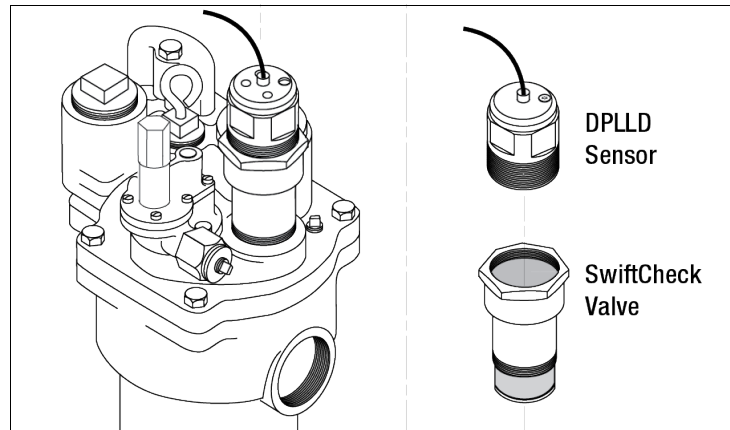
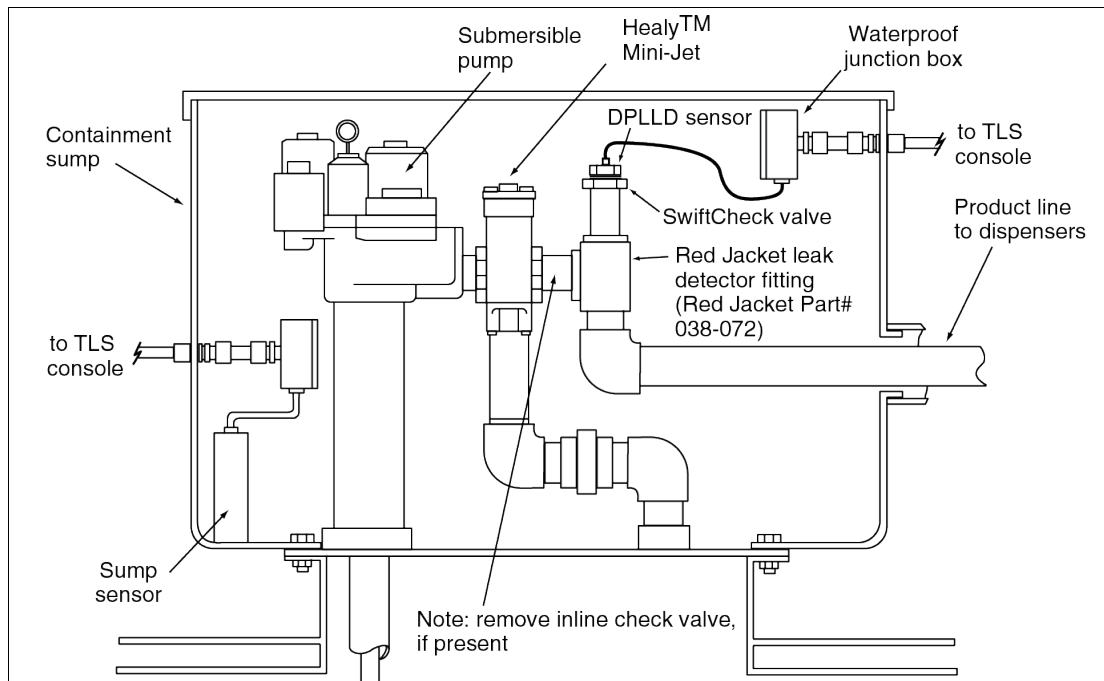

Figure 4. DPLLD Transducer Installation
Figure 5. DPLLD Install W/Healy Mini-Jet System (Required Dielectric Union And Shutoff Valve Not Shown)
8. If there is a Stage II vapor recovery device installed, go to Step 7. If there is no Stage II vapor recovery, install the SwiftCheck valve [Figure 4] in the mechanical LLD pump port. Thread the DPLLD transducer into the SwiftCheck Valve.
9. If there is a Stage II vapor recovery device installed in the pressurized piping you must install the SwiftCheck valve into a Red Jacket leak detector fitting (P/N 038-072) as shown in Figure 5 instead of in the pump's leak detector port. Because the DPLLD transducer must be installed downstream from these devices, a monitored containment sump is required.
10. Thread the DPLLD transducer into the SwiftCheck valve (ref. Figure 4 or Figure 5 as appropriate).
3. If the pump does have a Stage II vapor recovery device installed in the pressurized piping, lubricate the external o-ring on the SwiftCheck valve using mineral oil or other suitable lubricant and thread the valve into the Red Jacket leak detector fitting (P/N 038-072) as shown in Figure 5 on page 10 instead of in the pump's leak detector port. Next thread the DPLLD transducer into the 038-072 fitting.
3. If the pump does have a Stage II vapor recovery device installed in the pressurized piping, lubricate the external o-ring on the SwiftCheck valve using mineral oil or other suitable lubricant and thread the valve into the Red Jacket leak detector fitting (P/N 038-072) as shown in Figure 5 on page 10 instead of in the pump's leak detector port. Next thread the DPLLD transducer into the SwiftCheck valve.